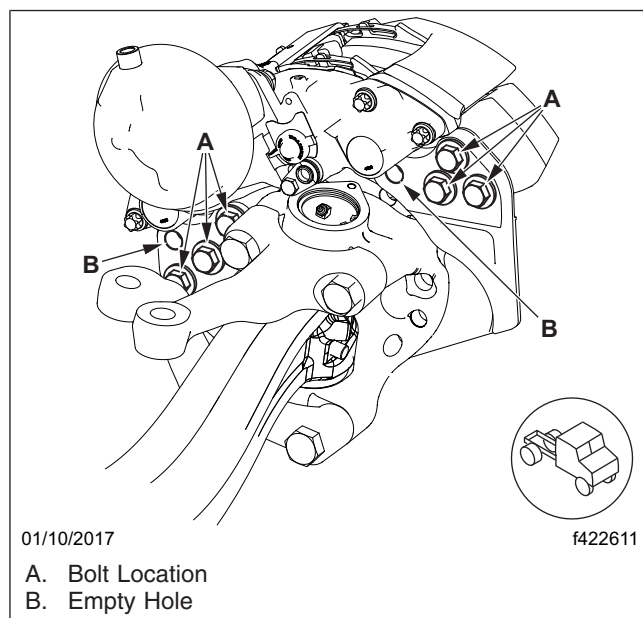
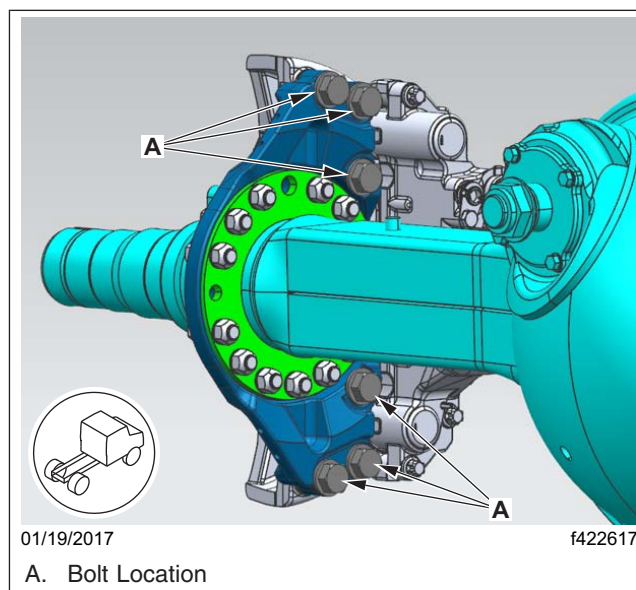

Fig. 1, Caliper Bolts, Front Axle
Fig. 2, Caliper Bolts, Rear Axle
3. Inspect each brake caliper (front and rear) to make sure the caliper has all six caliper mounting bolts installed, that the bolts are all in the correct locations (see Fig. 1 and Fig. 2), and that they are not loose.